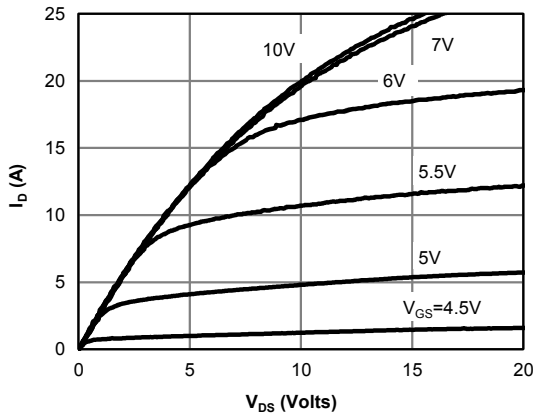

Figure 1: On-Region Characteristics@25° C
E. The static characteristics in Figures 1 to 6 are obtained using <300 μs pulses, duty cycle 0.5% max.